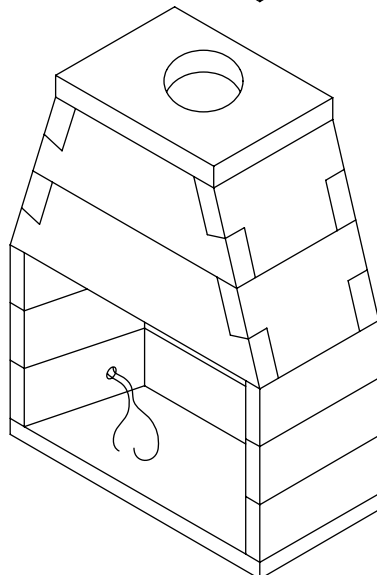

Figure 12
**Step 9:** Set the upper course of front and rear smoke dome components directly on top of and aligned with the bottom front and bottom rear smoke dome components that are already in place. Set the two upper smoke dome sloping sidewalls into position, one at each end of the upper front and rear smoke dome components. (Figure 12)
**Step 11:** Set the smoke dome top plate into position on top of the smoke dome wall assembly, with the flue hole closer to the rear. (Figure 12) Be sure to set the smoke dome top plate flush with the front, back and sides of the smoke dome assembly.